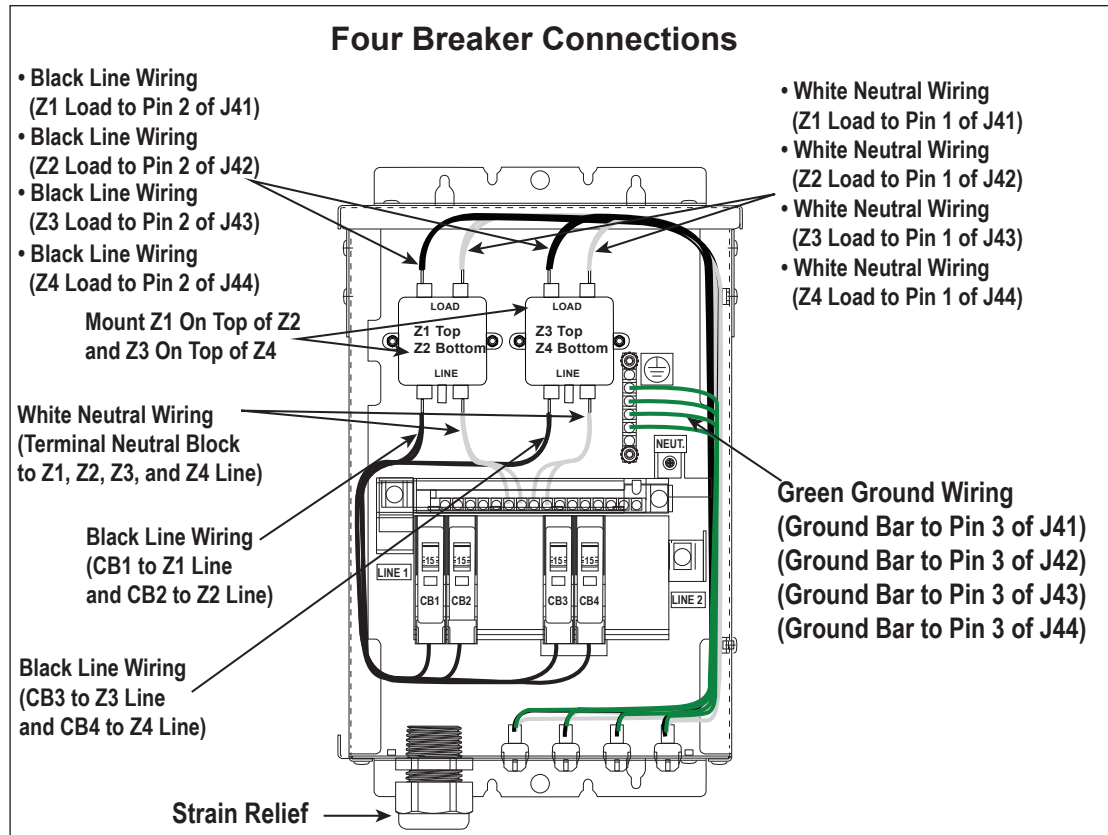

Figure 6: Single-phase Four Breaker Domestic Panel
4. The ground wire connects to the grounding bus bar. Refer to **Figure 6** for an example.